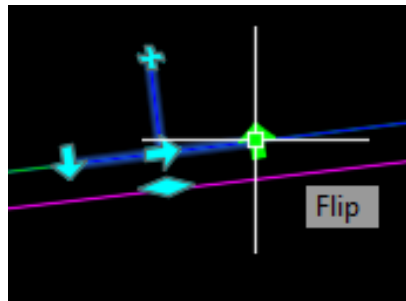

Figure 8.19 – The Flip node
4. Depending on the flow of our pressure network, we may need to flip the tee that's inserted using the **Flip** node that displays when the tee is selected (refer to *Figure 8.19*).
5. Next, we'll simply click on the + node (displayed in *Figure 8.19*) to add a 6" diameter pipe that we'll connect to our fire hydrant.